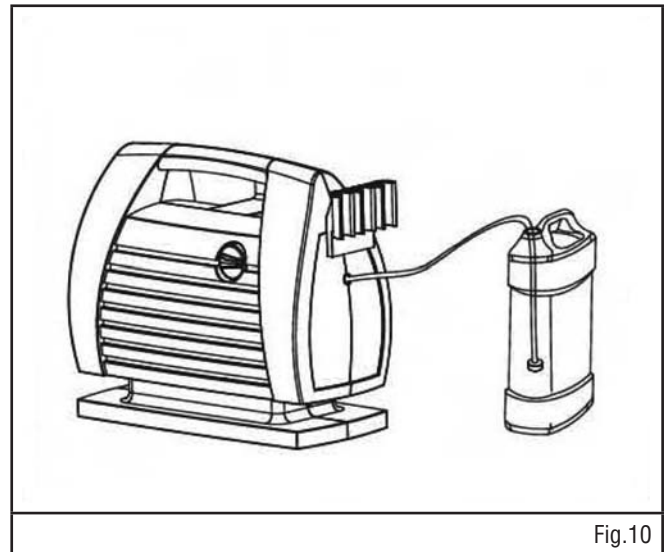

Fig.10
1. Pull the detergent suction tube out and insert it into a detergent container. (Fig. 10)